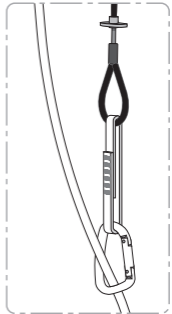
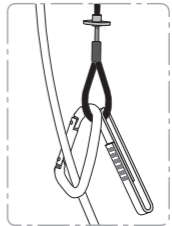

Figure 7
Figure 8
- Use a carabiner to attach the rope to the Basic Cam, as shown in **figure 7** or **figure 8**.